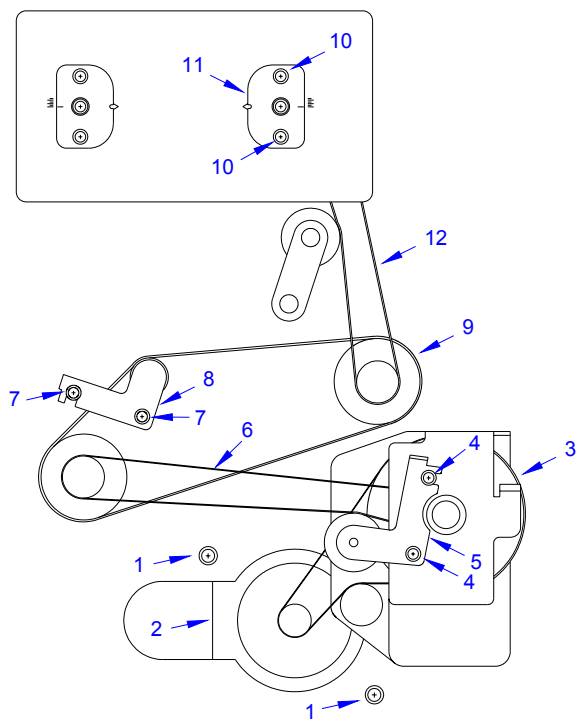

Figure 8-6, Tightening Timing Belts
- 3 Loosen two screws (1, Figure 8-6) and manipulate motor (2) as required to tighten motor belt (3). Retighten screws (1).